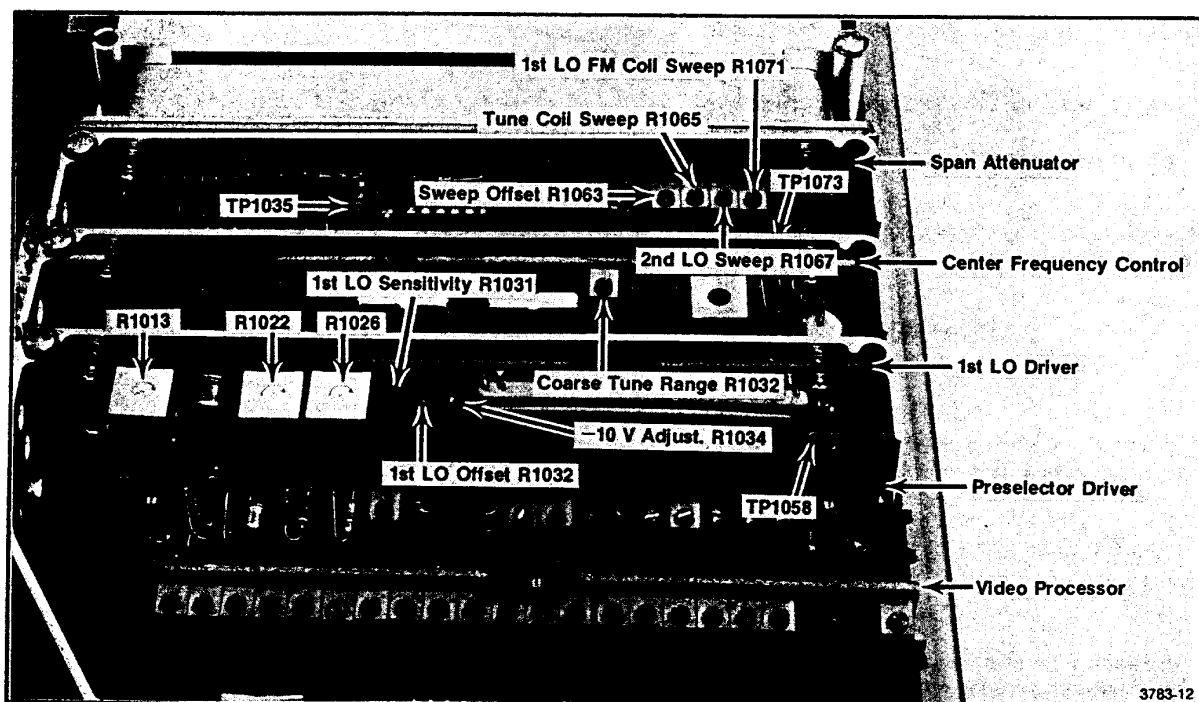

Fig. 3-31. 1st LO balance and span adjustments and test points.
- 2) Connect the digital voltmeter (DVM), set to the 20 V range, between TP1058 of the 1st LO Driver and chassis ground (Fig. 3-31), so the voltage at the test point can be monitored. Adjust FREQUENCY for a readout of 0 MHz as the FREQ SPAN/DIV is reduced to 5 MHz. Note the DVM reading.
- 5) If the differential between 0 MHz and 4.278 GHz is not 20.00 V, adjust Coarse Tuning Range R1032 on the Center Frequency Control board (Fig. 3-31) until the voltage difference between the two frequency points is 20.00 V.
- 1) Connect a shorting strap from TP1035, on the Span Attenuator board, to chassis ground (Fig. 3-31). Monitor the voltage on TP1073 (Fig. 3-31) with the DVM.
- 4) Adjust the 1st LO Offset R1032 (Fig. 3-31) on the 1st LO Driver board to center the  $1.8$  GHz marker.
- 6) Adjust 1st LO Sensitivity R1031 (Fig. 3-31) on the 1st LO Driver board to center the  $100$  MHz marker.
- a) If the readout is equal to or greater than 4.216 GHz (5.522 GHz Option 01) adjust the 1st LO Offset R1032, on the 1st LO Driver board, (Fig. 3-31) to move the marker 4 MHz (5.5 MHz, Option 01) lower.
- 11) Tune the FREQUENCY readout to 4.207 GHz (5.510 GHz, Option 01) and adjust the 1st LO Sensitivity R1031, on the 1st LO Driver board, (Fig. 3-31) so the marker is at center screen.
- d) If the marker is greater than 8.6 MHz (11.0 MHz, Option 01) perform steps d(10) and d(11)
- 2) Adjust Tune Coil Swp R1065 (Fig. 3-31) on the Span Attenuator board so the 100 MHz harmonics of the Calibrator are spaced at one division intervals over the center eight divisions of the graticule. Adjust the FREQUENCY as necessary to align the markers.
- 5) Adjust the 1st LO FM Coil Swp R1071 (Fig. 3-31) for 1 marker/division over the center eight divisions of the display.
4) Adjust the 2nd LO Swp, R1067, (Fig. 3-31) on the Span Attenuator circuit board, so the two comb lines near the graticule edges are 8 divisions (800 kHz) apart.